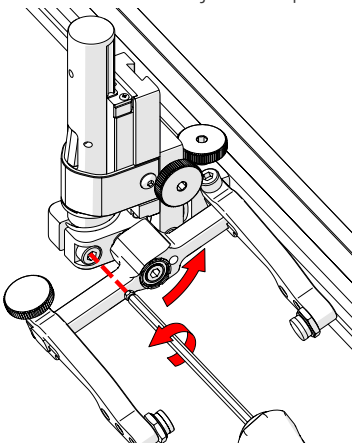

Fig. 87 - Loosen 3 mm screw
2. Using the supplied 3 mm hex driver loosen the transverse adjustment screw (Fig. 87) and rotate the yoke about the vertical shaft achieving the desired angle.